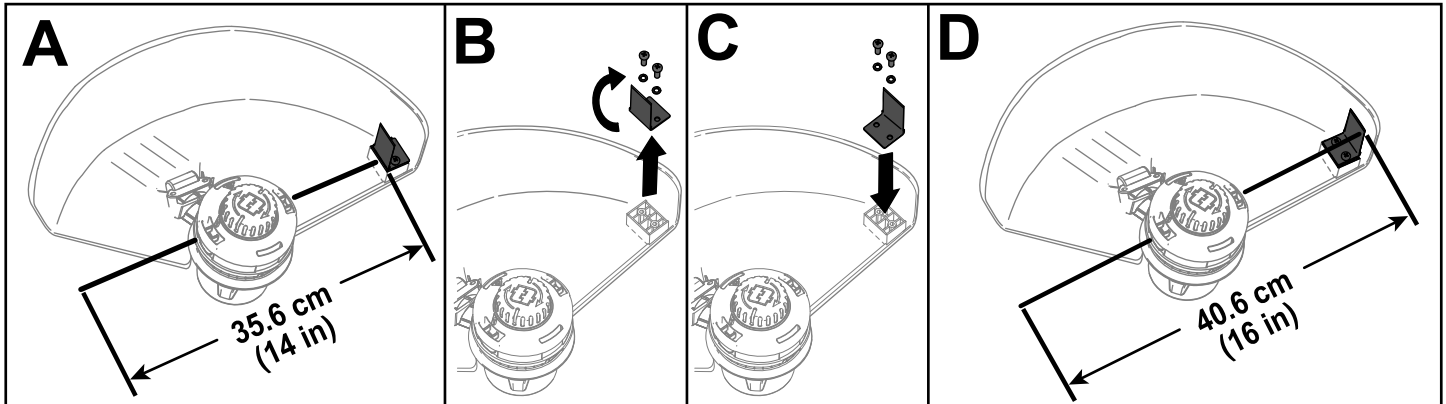

Figure 12
The trimmer comes from the factory with a cutting swath of 36.6 cm (14 inches) as shown in A of Figure 12. Refer to the following instructions to adjust the swath to 40.6 cm (16 inches) as shown in D of Figure 12.
1. Remove the swath blade from the bottom of the guard by removing the 2 screws holding it in place using the provided Allen wrench (B of Figure 12) and rotate the swath blade 180°.
2. Once the swath blade is rotated, install it onto the guard using the 2 screws previously removed (C of Figure 12).